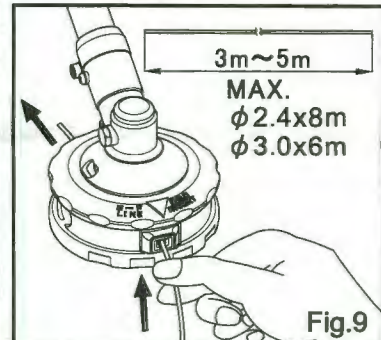

Fig. 9
2. Cut the nylon line to 3 to 5 meters. Insert the line into the eyelet under ▼ mark. (Fig. 9) Adjust the nylon line of both sides to the same length. (Fig. 10)